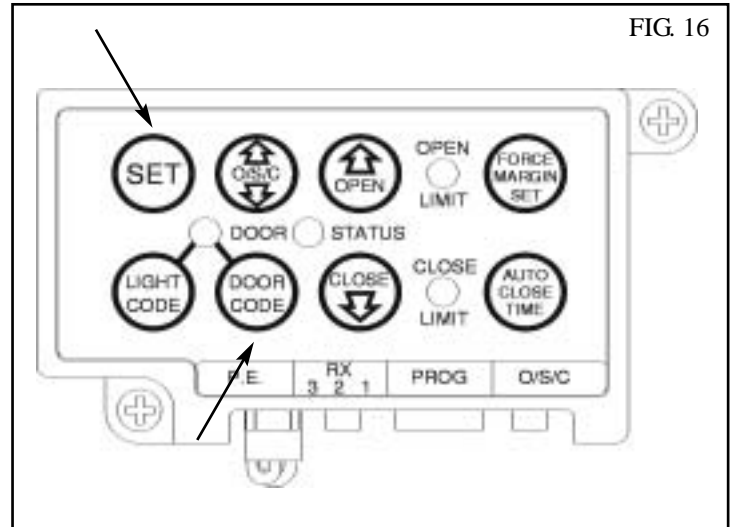

FIG. 16
4. Press and hold the Door Code button (Fig. 16).
1. Press and hold the Close button (Fig. 16) for six (6) seconds until you hear three beeps and the red Close Limit LED starts to flash. Release the button.